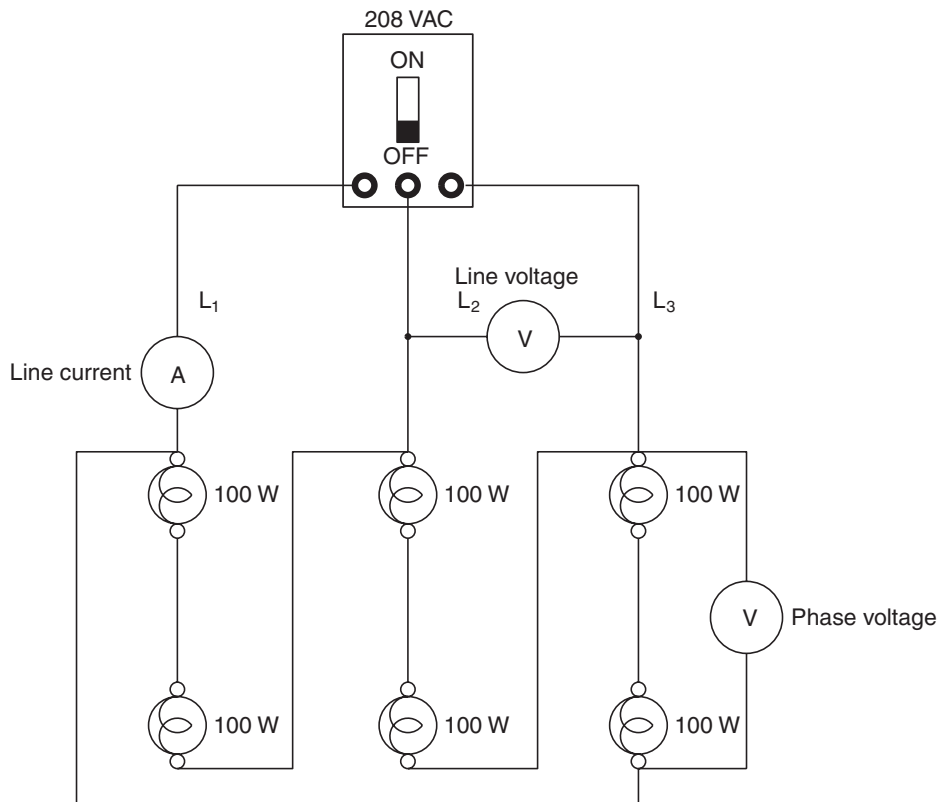

Figure 23-22 Measuring the voltage and line current values of a delta connected load.
10. Reconnect the three banks of lamps to form a delta connected load, as shown in Figure 23-22.